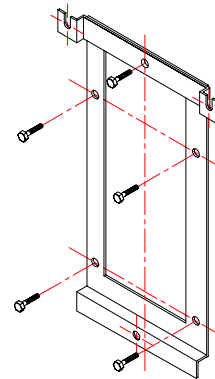

Figure 3
3. Center the mounting bracket on the vertical line, aligning the top 2 mounting holes with the horizontal line (Figure 3).
4. Holding the bracket as shown in Figure 3 mark the locations for the 5 fasteners.